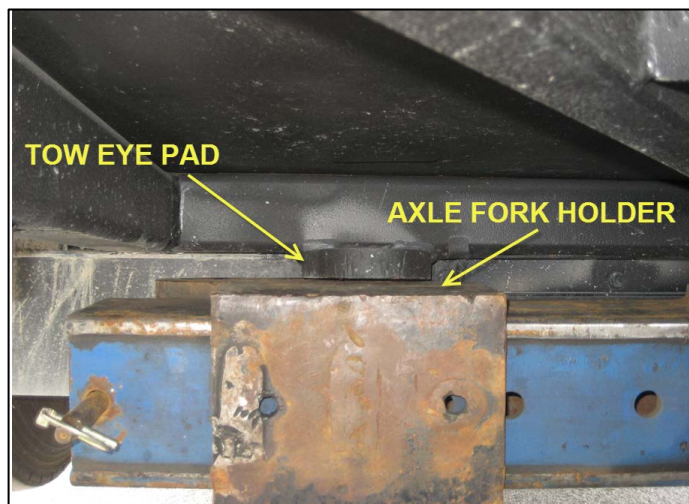

FIGURE 32
3. Deploy the tow truck stinger arm, placing the axle fork holders under the tow eye pads (Figure 32).